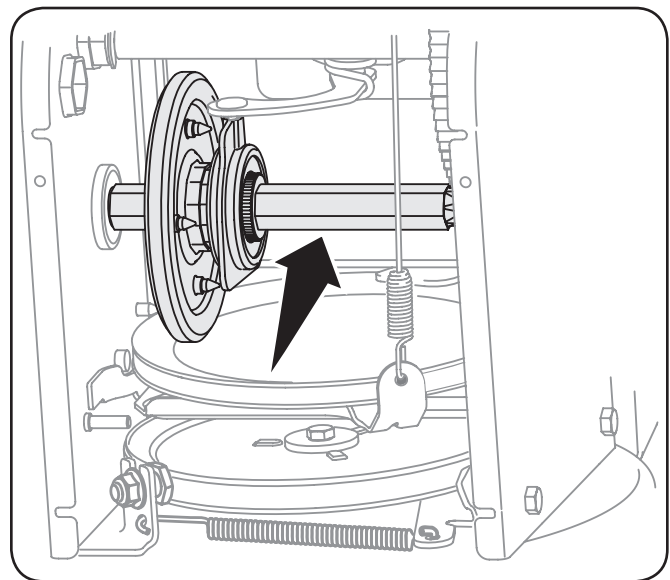

Figure 6-6
4. Apply a light coating of Bostik Regular Grade Never-Seez® to the hex shaft. Figure 6-6.